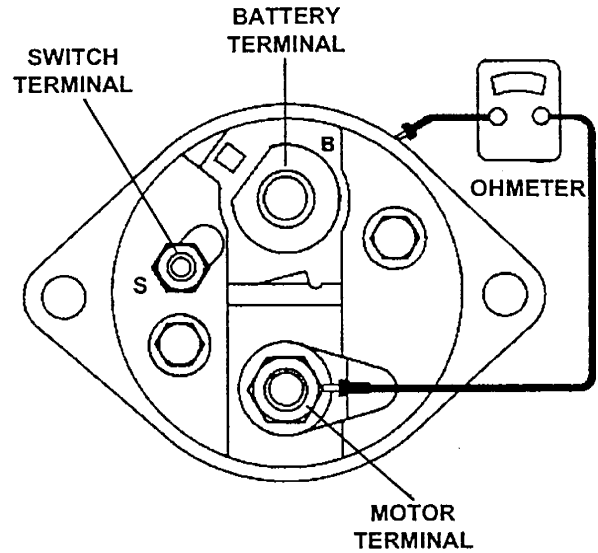

FIGURE 9. SOLENOID TERMINALS
Component Electrical Testing (Figures 9 and 10)
1. Using a suitable ohmmeter, check the windings of the solenoid assembly (1) for continuity as follows:
- a. Check the resistance of the solenoid pull-in and hold-in windings in series by measuring the resistance between the motor terminal (see Figure 9) and the solenoid case. The resistance should be approximately 0.95 ohms for 12-volt starters and approximately 1.75 ohms for 24-volt starters.
2. Check the armature (13) as follows for shorts, opens or grounds using suitable test equipment and instruments (test lamp must be 110 volts or less).
3. Check frame and field assembly (19) for grounds or opens using a test lamp (110 volts max.) or ohmmeter, as follows: